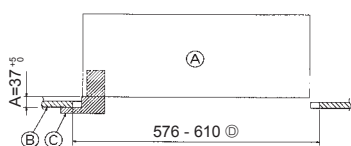

Fig. 5-2
①	Grille	1	625 × 625 (mm)
②	Screw with washer	4	M5 × 0.8 × 28 (mm)
③	Gauge	1
④	Junction wire for signal receiver	1	Included when equipped with the signal receiver.
⑤	Junction wire for i-See sensor	1	Included when equipped with the i-See sensor.
⑥	Fastener	2	Included when equipped with the signal receiver.
⑦	Fastener	2	Included when equipped with the i-See sensor.
5.2. Preparing to attach the grille (Fig. 5-2)